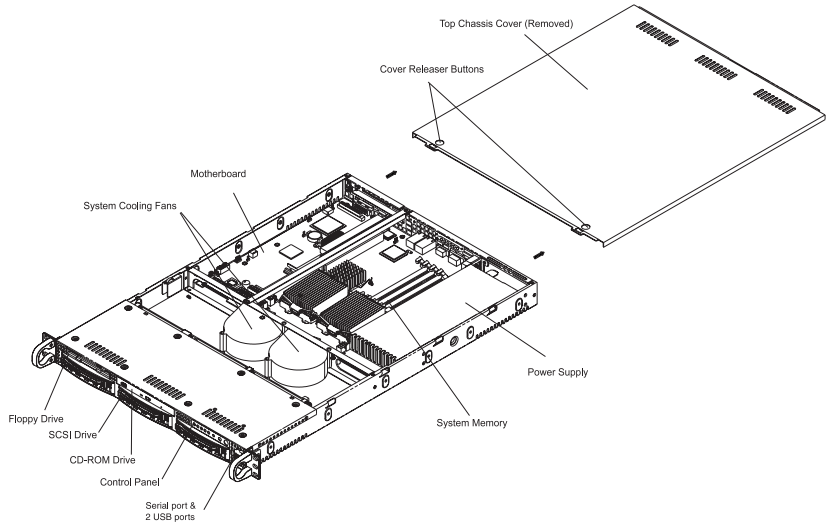

Figure 2-5. Accessing the Inside of the SuperServer 6012L-6
1. Accessing the inside of the 6012L-6 (see Figure 2-5):